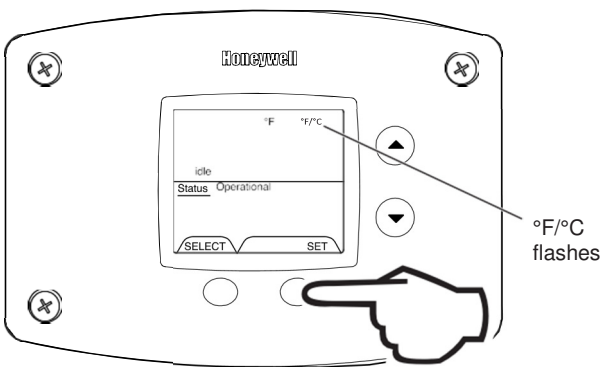

Fig. 21
2. Press 'SET' button to change temperature format. Symbol °F/ °C will flash (Fig. 21).